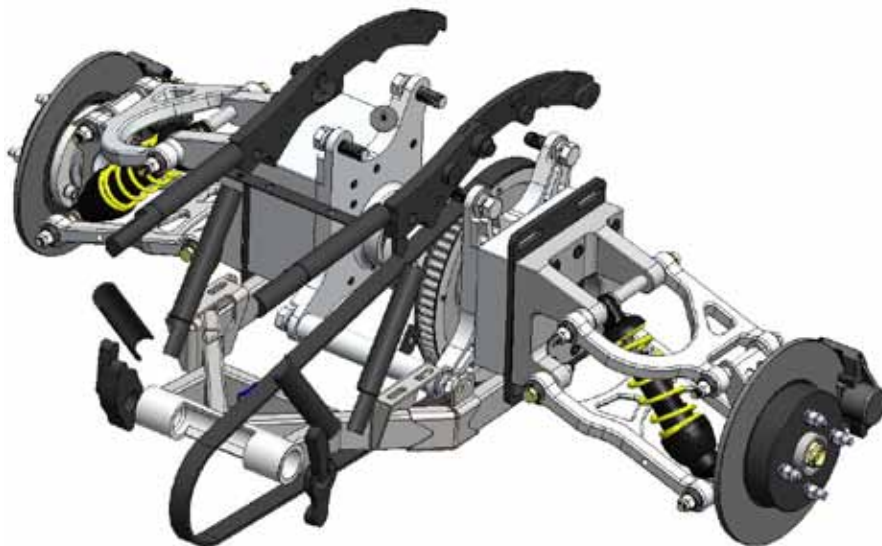

Figure 7
- Passing the left end through the drive belt, position the unit behind vehicle. Use suitable support to help stabilize the unit. See Figure 7